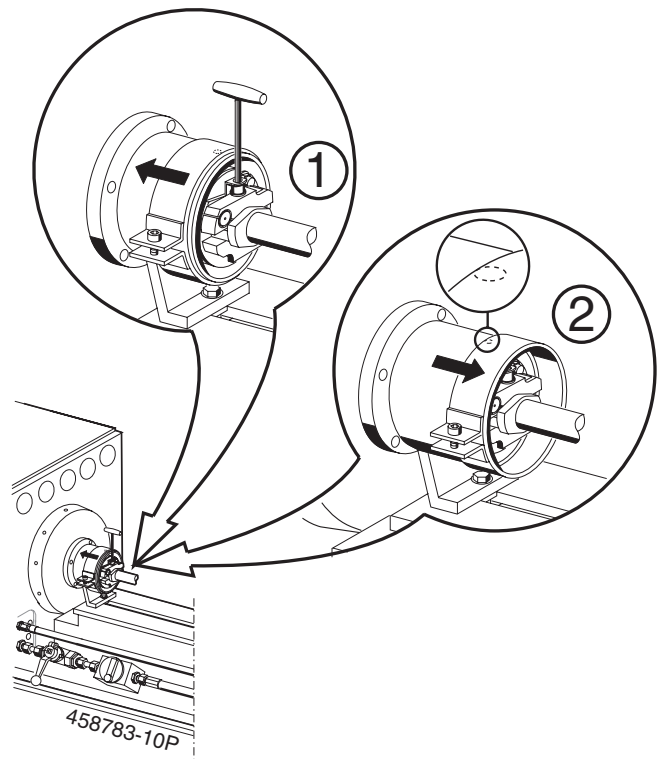

Fig. 7: Protective cover and protective ring
2. Slide the protective ring to the stop on the protective cover (see fig. 7, item 1).
3. Clamp the distribution pump in the drive coupling (see fig. 7, item 1).
4. Slide the protective ring forwards such that the hole in the protective cover is still fully covered (see fig. 7, item 2). The protective ring then covers the drive coupling. Fasten the protective ring in this position.